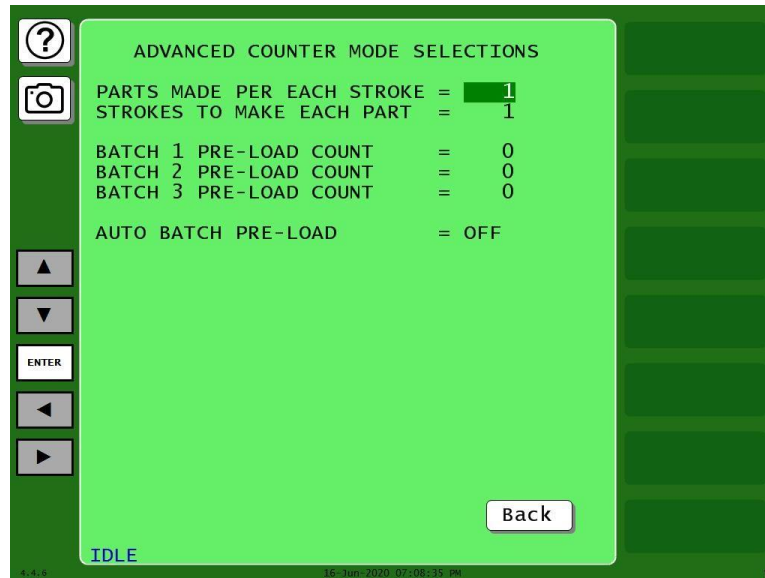

Figure 4-16. Advanced Counter Mode Selections Screen
1. On the Counter Mode Selections screen, press the ADVANCED MODES button. The Advanced Counter Mode Selections screen, Figure 4-16.